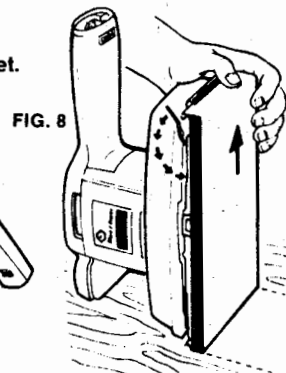

FIG. 8
3. Turn Sander over to the position in Figure 8. Open clamp, insert end of paper and draw paper up snug and flat against the platen. Now close the clamp and you are ready for sanding.